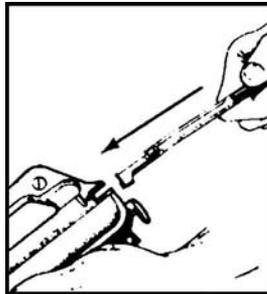

Figure 071-311-2025-32. Placing the charging handle in the receiver
- j. Slide the bolt carrier into the upper receiver (figure 071-311-2025-33).